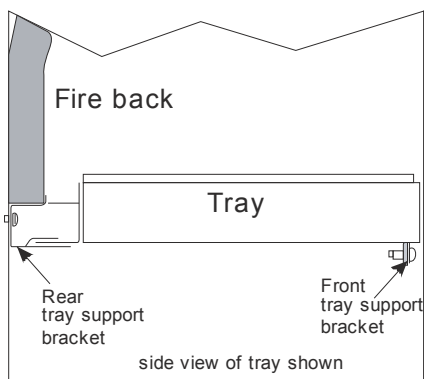

Figure 60
5. Replace the burner tray ensuring that the rear of the burner tray assembly slots into the rear support (see **Figure 60**).